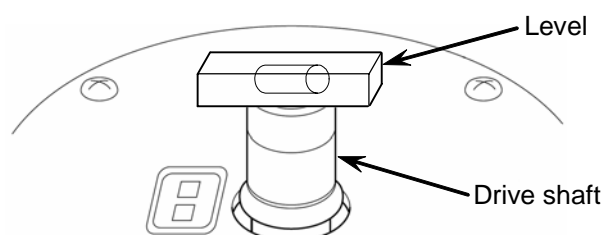

Figure 5-3. Level placement
(2) Turn on the power to micro-ultracentrifuge, open the chamber door, and then turn off the power. If this micro-ultracentrifuge is still unplugged, refer to “Emergency recovery from power failure” on page 2-70, remove the front cover, and open the chamber door.
(3) Place the level furnished with this micro-ultracentrifuge on the drive shaft in the rotor chamber and turn the four leveling screws to adjust the levelness of this micro-ultracentrifuge (Fig. 5-3).
(4) After adjusting the levelness, make sure that the four leveling screws are fastened securely to the surface where the micro-ultracentrifuge is positioned.